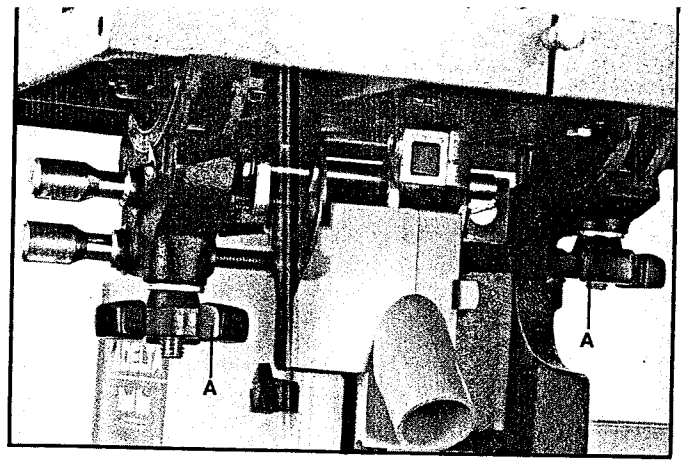

Fig. 20
The table on your band saw can be tilted 45 degrees to the right and 10 degrees to the left. To tilt the table, loosen the two knobs (A) Fig. 20; tilt the table to the desired angle and tighten the two knobs (A).